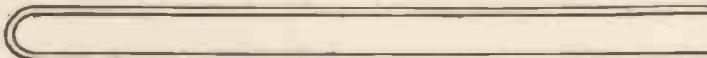
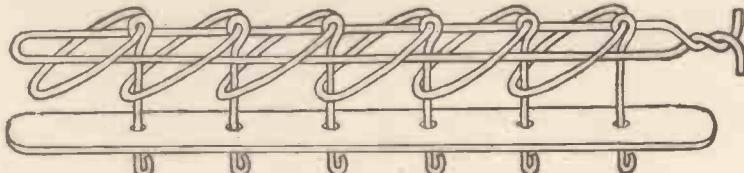

Fig. 4.—The open-ended loop of wire.
Fig. 5.—The First Move in solving the Puzzle.
wire is cut off and bent in the middle to form an open-ended loop (see Fig. 4). Thread this loop through the rings and twist the ends together as shown in Fig. 5, and the puzzle will be complete. The problem is to remove the loop.
**How it is Solved.**—To solve the puzzle, take hold of the loop by the twisted end in the right hand, with the rounded end pointing to your left ; the puzzle then appears to you as Fig. 5. Let the rings and the base hang down from the loop, and manipulate the rings with the left hand. For ease of reference, let us number the rings 1 to 6, that on the left being No. 1, the others being numbered